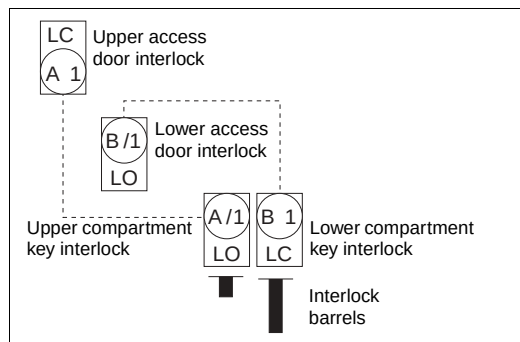

Figure 31: Interlock Status (Step 4.a.)
4. Insert the interlock key and turn the key clockwise to lock open (LO) the access door interlock.
- a. If device is racked into an upper circuit breaker compartment, lock open (LO) the lower access door interlock (see Figure 31).